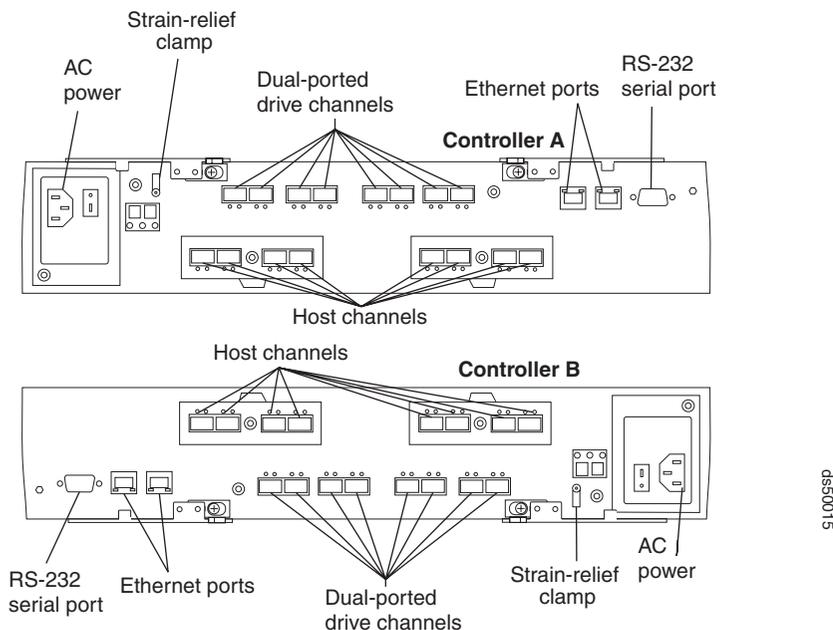

Figure 2. Connectors on the back of each controller
8. Disconnect all attached interface cables from the controller you are replacing or upgrading, including the SFP modules. Ensure that you label each cable so that you can reconnect them correctly to the new or upgraded controller. Figure 2 shows the location of the connectors on the back of a controller.